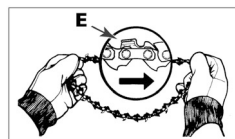

Fig. 3C
1. Spread the chain out with the cutting edges (E) of the chain pointing in the DIRECTION OF ROTATION. (See Fig. 3C)
4. Spread the chain out with the cutting edges (E) of the chain pointing in the DIRECTION OF ROTATION (Fig. 3C.)